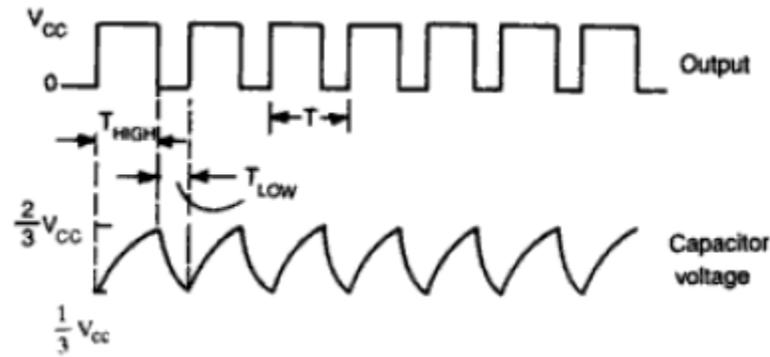

Figure 17: Timing sequence of Astable multivibrator
- Fig. 17 shows the timing sequence and capacitor voltage wave form.